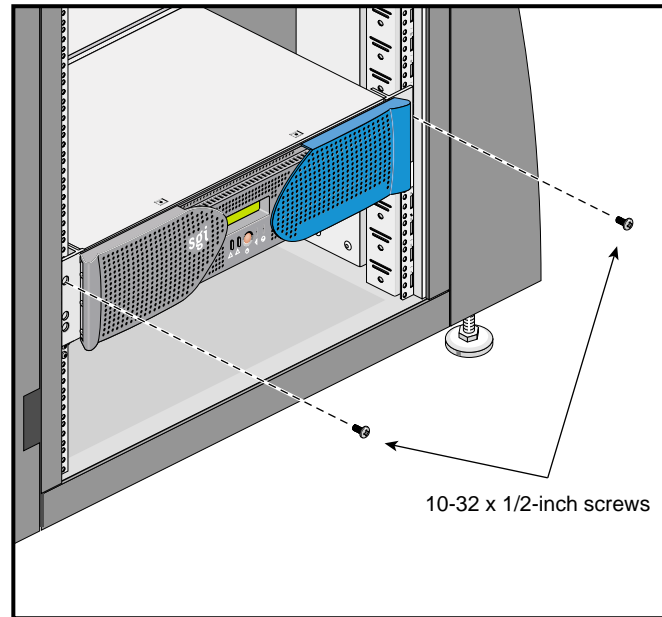

Figure C-14 Securing the Brick to the Rack
- Secure the brick to the rack by inserting a 10-32 x 1/2-inch Phillips screw in the top hole of each chassis ear (see Figure C-14).
Caution: Do not lift the brick by its bezel; it is not designed to handle the weight of the brick. Instead, use the chassis ears to move the brick (see Figure C-14).